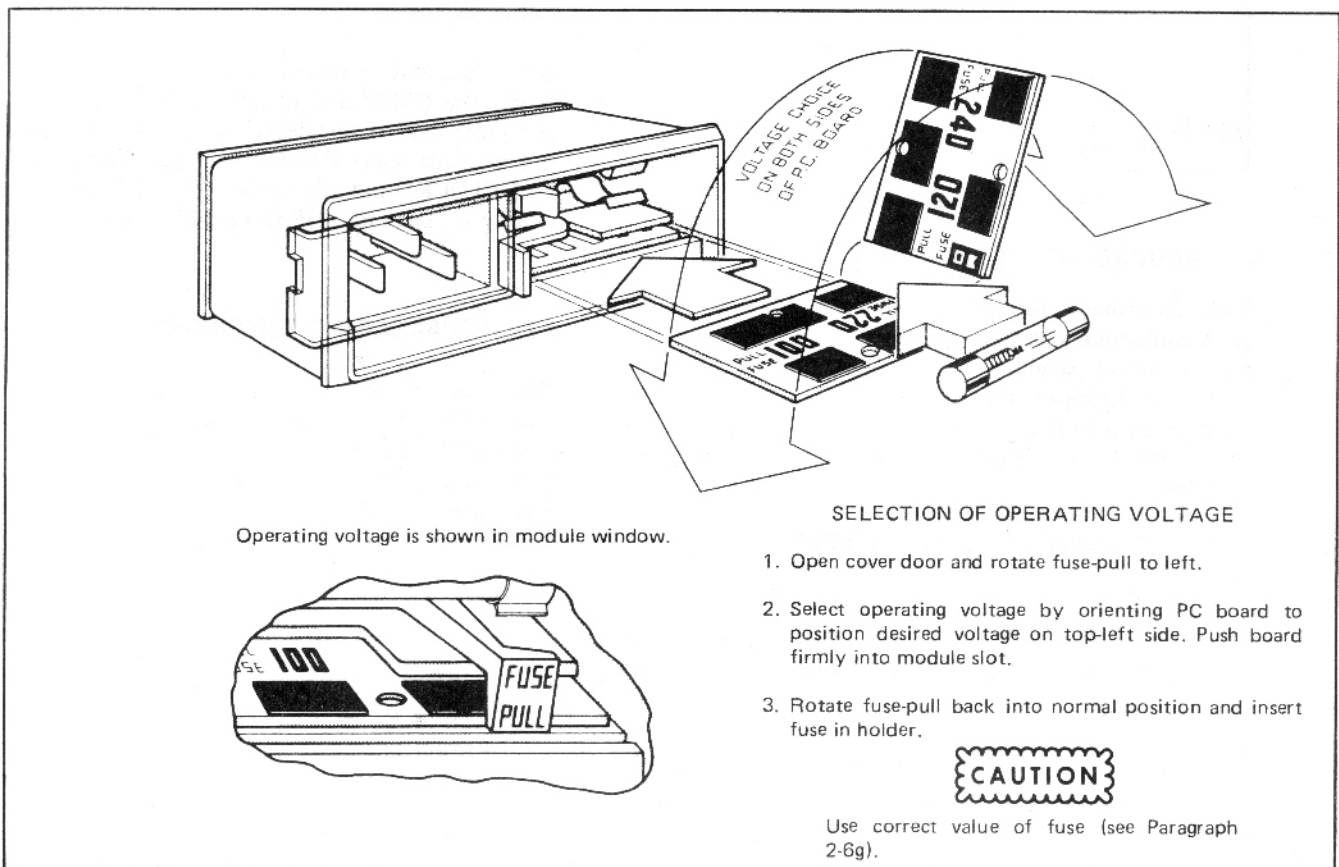

Figure 2-1. Power Module.
2-6. The Model 59401A can be operated from any power source supplying 100 V, 120 V, 200 V or 240 V (- 10%, + 5%), 48 Hz to 66 Hz. Power dissipation is 42 VA maximum. A circuit board located beneath the power fuse in the power input module is used to select the appropriate voltage operation. The instrument leaves the manufacturer with this circuit board in the 120 V position. To operate the Model 59401A from another voltage, use the following procedure and Figure 2-1.
- c. Remove the line fuse by pulling outward on the fuse puller (see Figure 2-1).